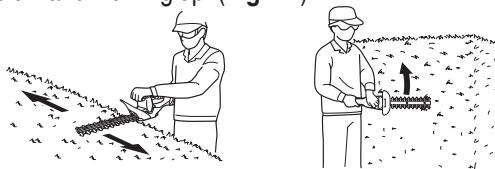

Fig. 21
- Trim the top of hedges by moving the tool from right to left (or left to right) and trim the sides by starting from below and working up. (Fig. 21)